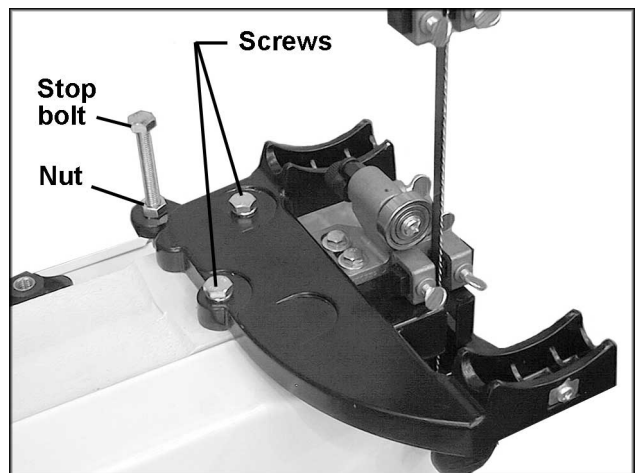

Fig. 12
11. Attach trunnion support to saw body with two M8 x 30 hex cap screws and two M8 lock washers (as in item D, page two). See Figure 12.
12. Thread nut on to table stop bolt (Fig. 12) and attach to trunnion support bracket as shown.